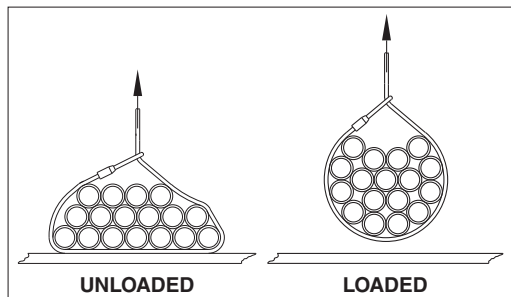

Figure 2
2. Before installing Bundle Clip, apply initial load by lifting the bundle and clearing the support, producing a tight choke. Repeat as necessary until the bundle package is in the most compact position (See figure 2, Loaded). **Keep hands and feet from under load.**